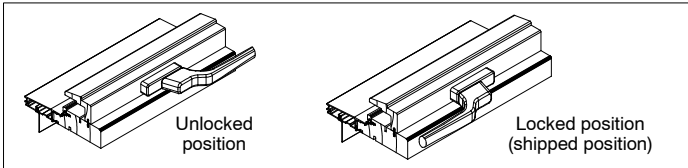
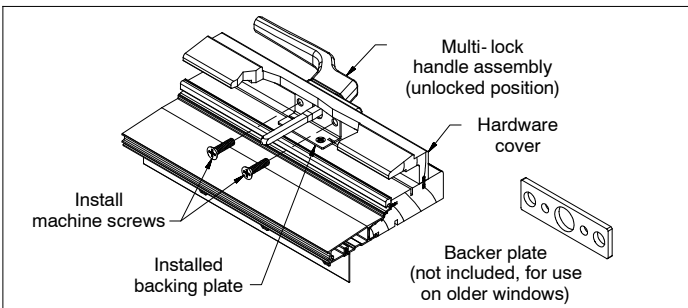

Figure 1
Figure 2
Note: The locking handle position in figure 1 is reversed for Round top units. Windows manufactured before 10/04 with backer plates require reusing the old backer plate to fasten the locking handle to the hardware cover rather than the mounting plate as shown in figure 2.
1. Insert the multi-lock handle through opening in the base of hardware cover and unlock sash by rotating the handle 180 degrees. See figure 1.
3. Fasten the locking handle with two Phillips head machine screws inserted through the mounting bracket and hardware cover into the handle base as shown in figure 2.